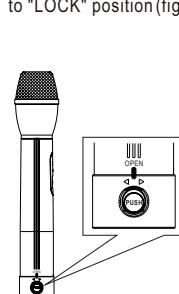

Figure 1
- Turnbattery bottom cover 90 degree anti-clockwise to "OPEN" position (figure 1), press "push" button to spring outbattery compartment a little, pull outthe battery compartment and install or exchange battery.